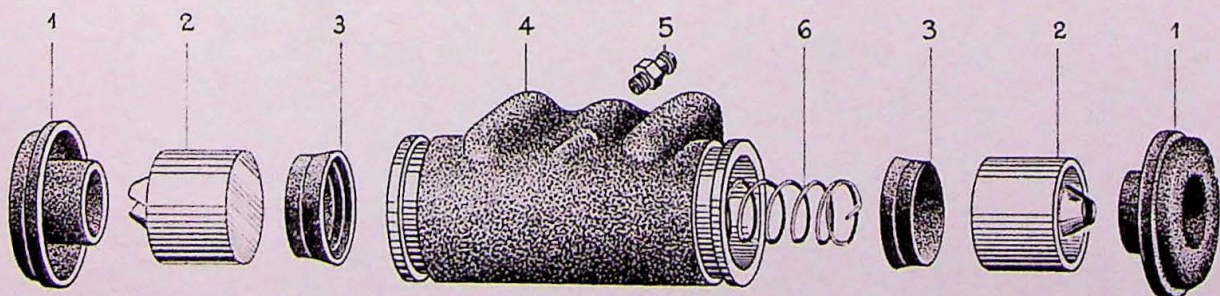

Fig. 8. Wheel unit cylinder.
Before commencing disassembly, any dirt must be blown off the unit with a jet of compressed air. Loosen the two rubber covers (1, Fig. 8) and then take out the plungers and stud (2) from the wheel unit cylinder (4). Remove the rubber gasket (3) and spring (6) from the cylinder by applying a light pressure at one end.